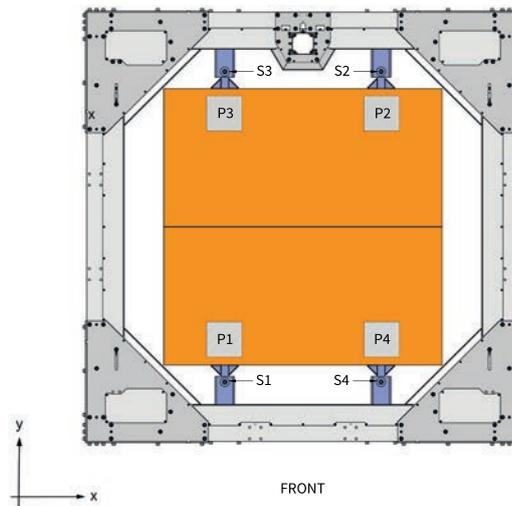

Fig. 4-5: Alignment of the table
- › Move the table up/down by turning screws **S1-S4** (Fig. 4-5)
- › Move the extruder head (**B**) manually by hand to **P1** area (Fig. 4-5).